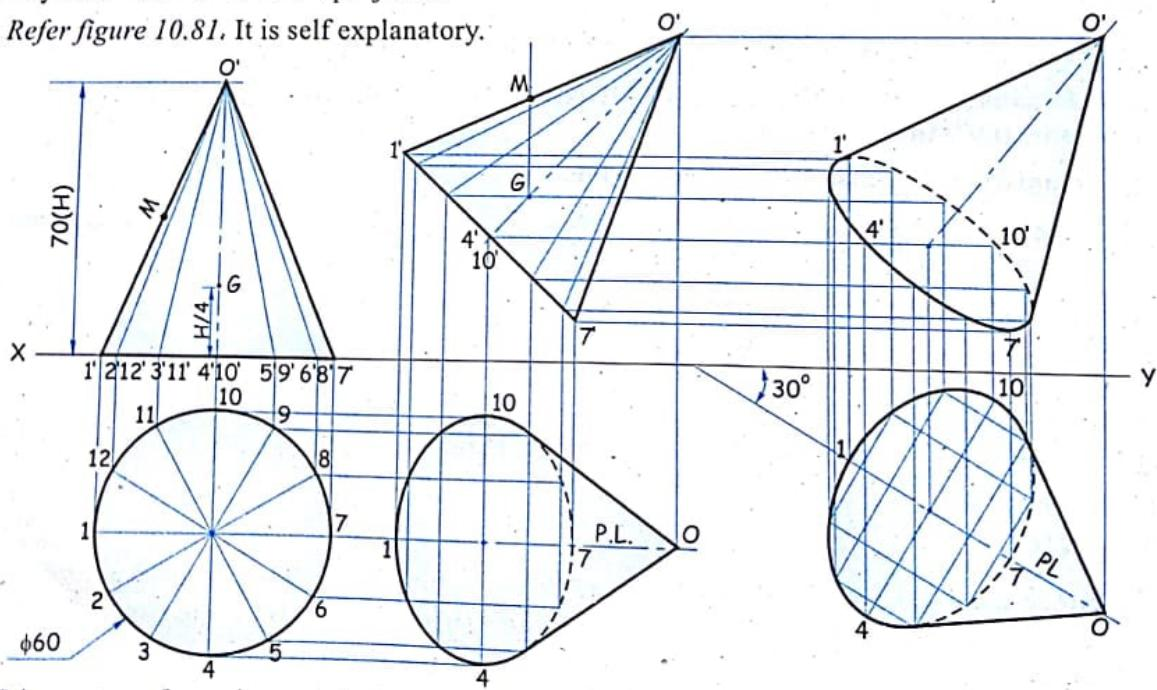

FIG. 10.81
**Solution :** Refer figure 10.81. It is self explanatory.